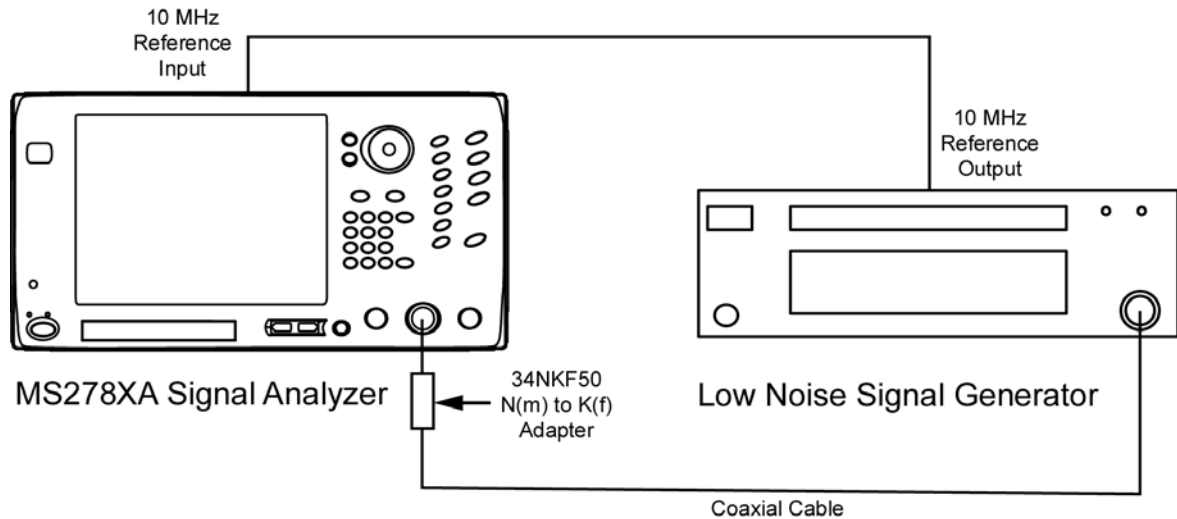

Figure 5-52. Equipment Setup for Single Sideband Phase Noise Test
1. Set up the instrument as shown in Figure 5-52.